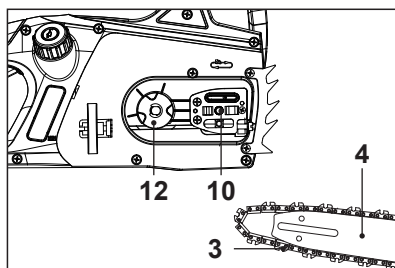

Fig. 1c
- 6). Align the guide bar (4) and saw chain (3) assembly with the drive sprocket (12) and bolt (10). Lay the saw chain around the drive sprocket (12) and then lower the guide bar (4) to install it to the bolt (Figs. 1c, 1d).